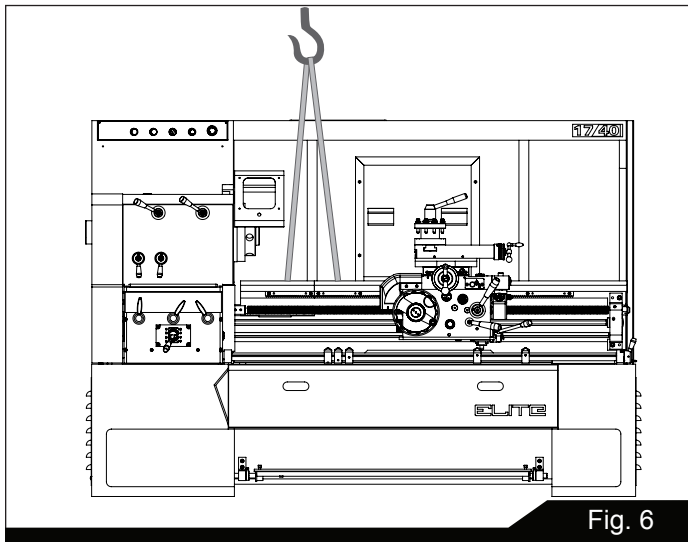

Fig. 6
7. With properly rated lifting equipment, slowly raise lathe off shipping pallet. (see Figure 6). Do not lift lathe by the spindle.